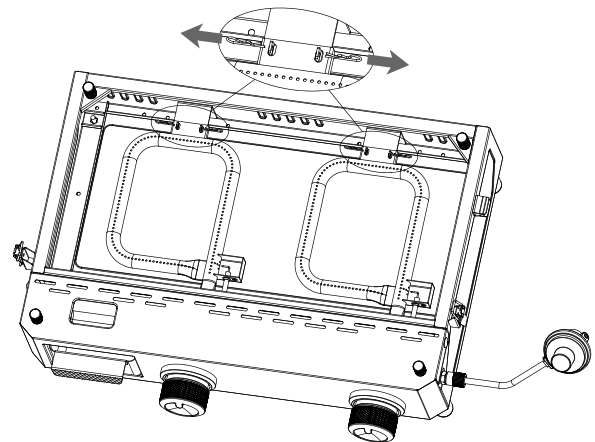

Figure 2
3. Remove four cotter pins from the burner supports as illustrated in Figure 2.